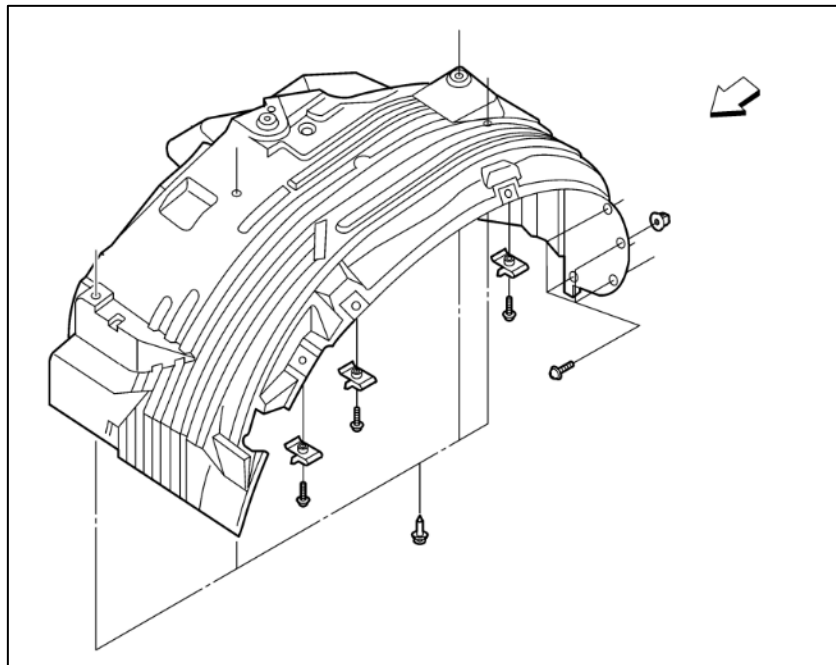

Figure 1
2. Loosen lug nuts on all (4) four wheels.
3. Locate proper jacking points on the vehicle's chassis (refer to the Owner's Manual). We supported our Frontier on the frame rails. Raise and support the vehicle using at least (4) four jack stands.
6. Remove the Front Fender Liners. Use *Figure 1* below as a reference for fastener locations.